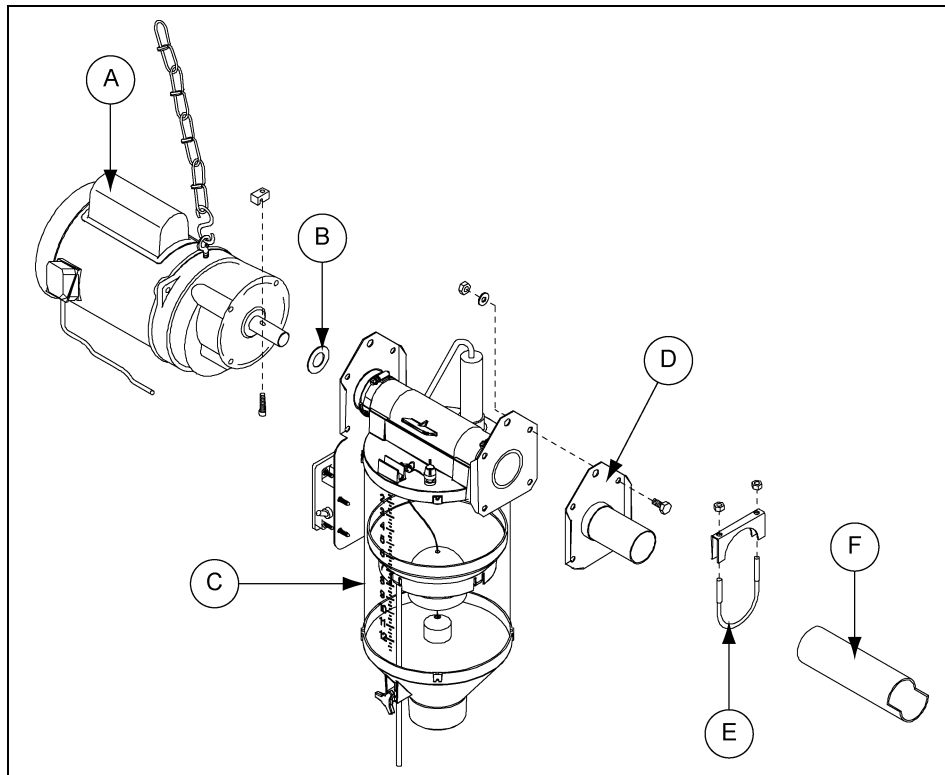

Figure 3F Control Unit with Model 220 Tubing
1. Bolt the Accu-Drop control unit to the Model 220 tube anchor plate weldment using four (4) 5/16" x 3/4" bolts, 5/16" washers and 5/16" nuts. (See Figure 3F.)